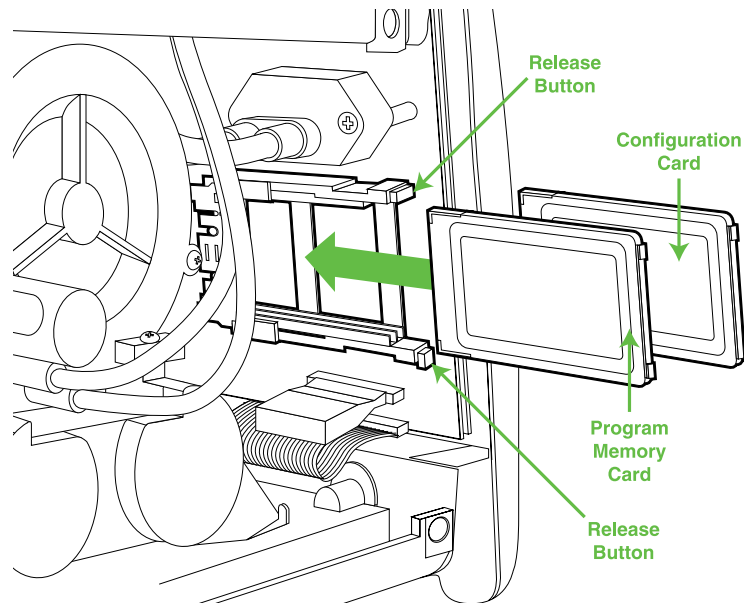

Figure 5-3. Program Memory Card and Configuration Memory Card
4. Referring to Figure 5-3, press the release button on the lower edge of the card receptacle to eject the Program Memory Card. Note the orientation of the Program Memory Card as it is removed from the ventilator.
5. Referring to Figure 5-3, press the release button on the upper edge of the card receptacle to eject the Configuration Memory Card. Note the orientation of the Configuration Memory Card as it is removed from the ventilator.